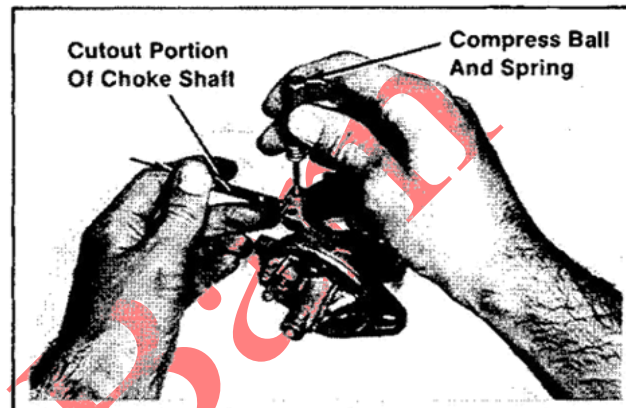

Figure 6-15. Installing Choke Lever/Shaft
2. Compress the detent ball and spring. Insert the choke lever/shaft assembly into carburetor body with the cutout portion of shaft facing the air cleaner mounting surface (refer to Figure 6-15). Make sure the choke lever is on the correct side of carburetor body.